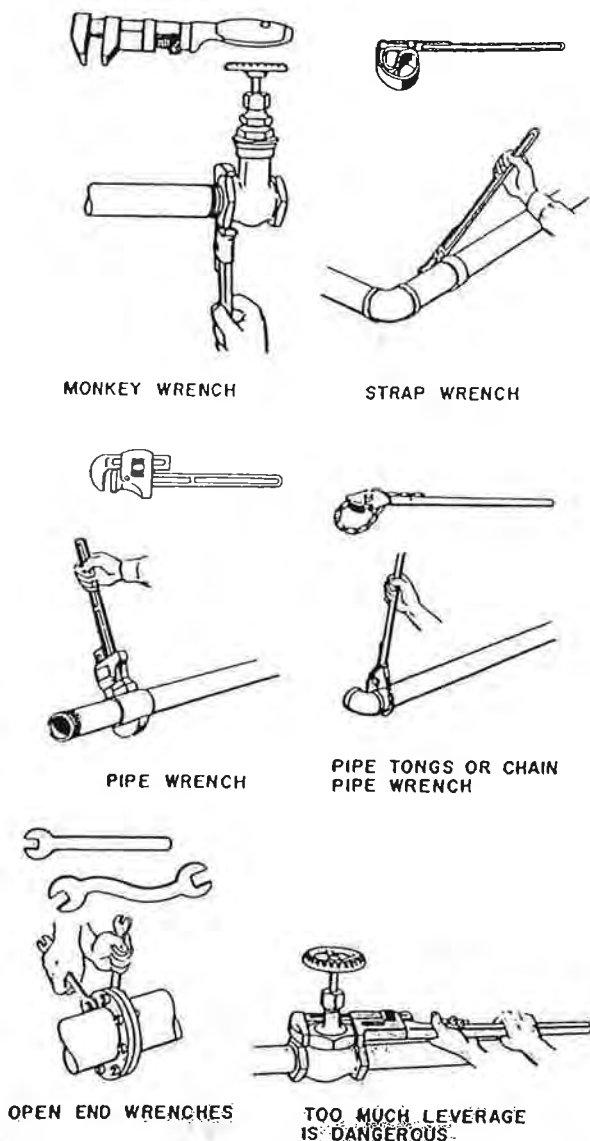

Fig. 10-20. Types of pipe wrenches.
10.47 Figure 10-20 shows several kinds of wrenches that are used in working on piping and piping system components. Select the right type and size for each application. It is possible to do serious damage to a valve or fitting if the wrong wrench is used or the right wrench is used improperly.